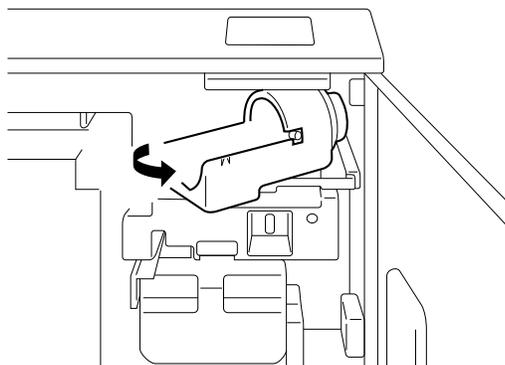

Figure 5-30
3. Swing out the Toner Bottle Holder, Figure 5-30.